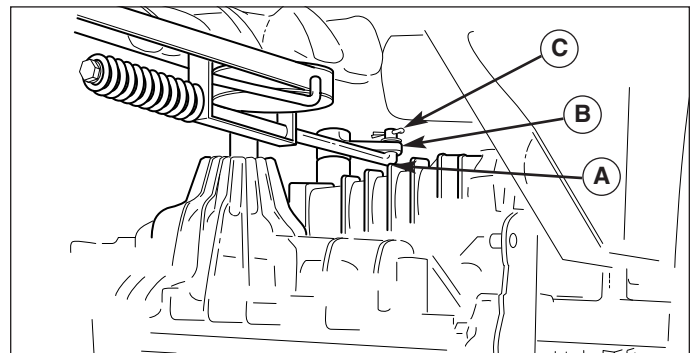

Figure 42. Brake Rod
3. Disconnect the idler pulley assembly spring (A).
4. Unplug the PTO clutch plug (B).
5. Remove the crankshaft bolt (C) securing the PTO clutch to the crankshaft.
7. Disconnect the steering arm (E).
8. Loosen the idler pulleys (D) and remove the belt from the idler assembly.
10. See Figure 42. Disconnect the brake rod (A) from the brake lever (B) at the back of the transmission.
13. See Figure 42. Reattach the brake rod (A) to the brake lever (B) at the back of the transmission.